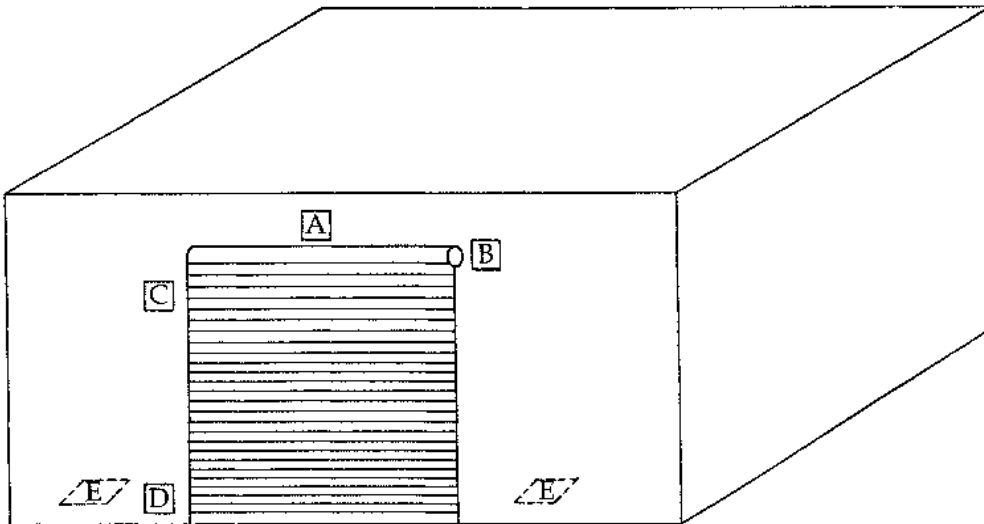

Figure Q13A
3. The roller door of a factory entrance as shown in Figure Q13A needs to be controlled using a PLC with the sensors and actuators specified in Table Q13.
Strategic locations have been identified for the installation of all the sensors and actuators by the letters A to E in Figure Q13A.